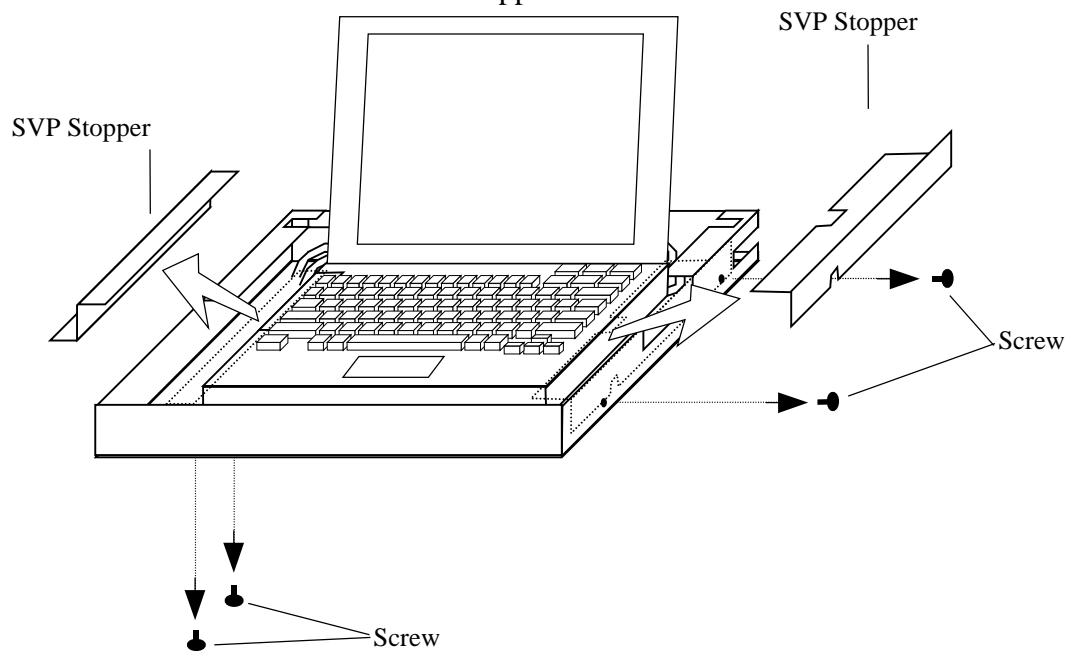

Fig. T7.3-2 Removing and installing the SVP Stoppers
- b. Install the SVP to the SVP ASSY and attach the SVP stoppers with screws. (See Fig. T7.3-2)